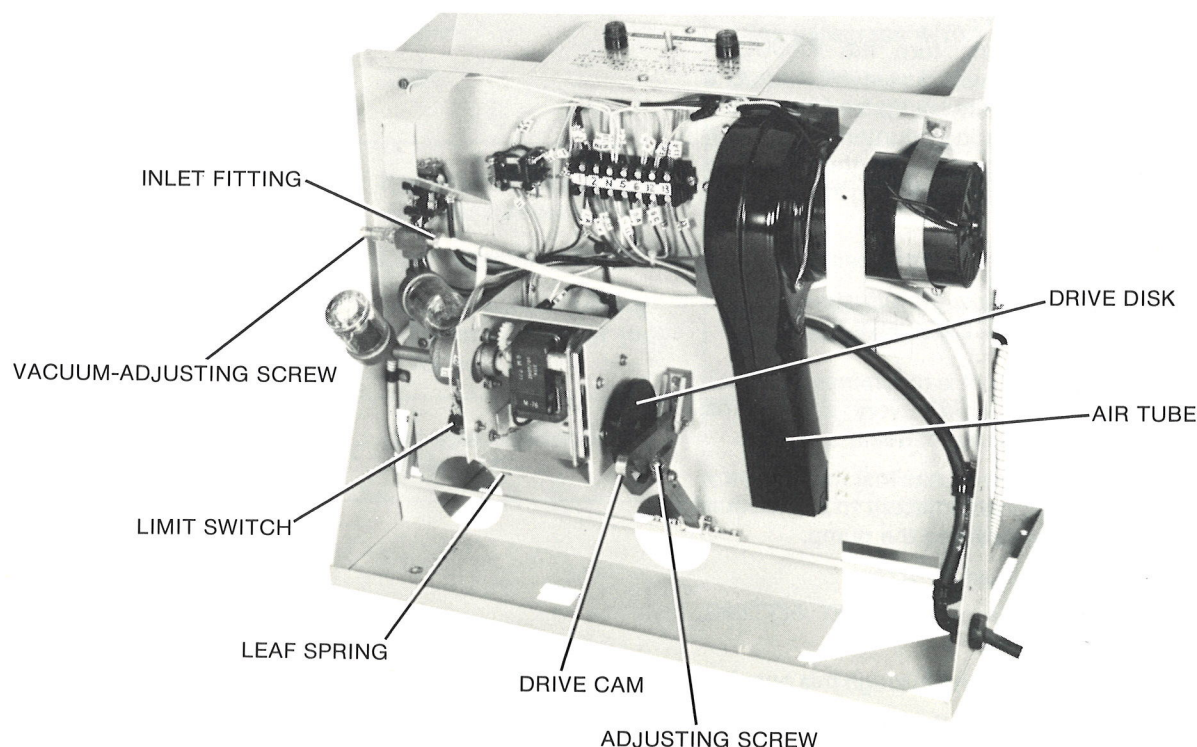

FIGURE 5
- loosen the lock nut on the adjusting screw. Use an Allen wrench to rotate the ADJUSTING SCREW, figure 5, so that the suction caps lightly touch the feed ramp.
**4-9. Limit Switch.** The LEAF SPRING of the LIMIT SWITCH, figure 5, is set to stop the header bar after the last film. Adjust, only if necessary, by *slightly* bending the leaf spring. If the limit switch is adjusted correctly, and the feeder still fails to operate or shut off properly, check the adjustment of the two replenisher detector switches.
**4-10. Drive Cam System.** Play between the DRIVE DISK, figure 5, and the motor shaft, or play caused by a worn bearing in the slot of the DRIVE CAM can result in the
**4-17.** To increase the vacuum, turn the VACUUM-ADJUSTING SCREW, figure 5, clockwise 1/8 turn at a time. Normally, the proper vacuum is obtained by closing (fully clockwise), and then rotating counterclockwise. If the suction cups cause marks on the film, the vacuum is too strong and should be reduced by turning the adjusting screw counterclockwise.
- b. remove the tubing from the INLET FITTING, figure 5, and